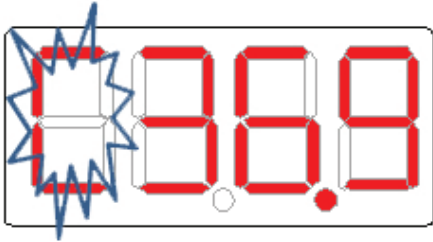

Figure 7 *Flashing Display in Calibration mode*
- b.) The Display will show the temperature assumed by the controller. For example, refer to Figure 7.